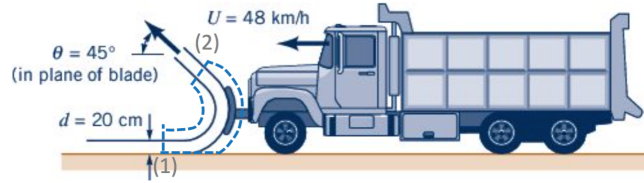

Figure 11: See problem 5.
**Solution:** *Control volume:* The control volume is chosen such that it includes the snowplow and moves with it. It has only one inlet and one outlet and the relative velocity of the wet snow is normal to the inlet and outlet surfaces (see Figure 11).